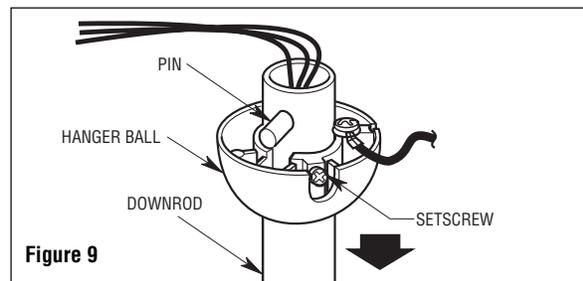

Figure 9
1. Remove the hanger ball by loosening the setscrew in the hanger ball until the ball falls freely down the downrod (Figure 9). Remove the pin from the downrod, then remove the hanger ball. Retain the pin and hanger ball for reinstallation in Step 7.